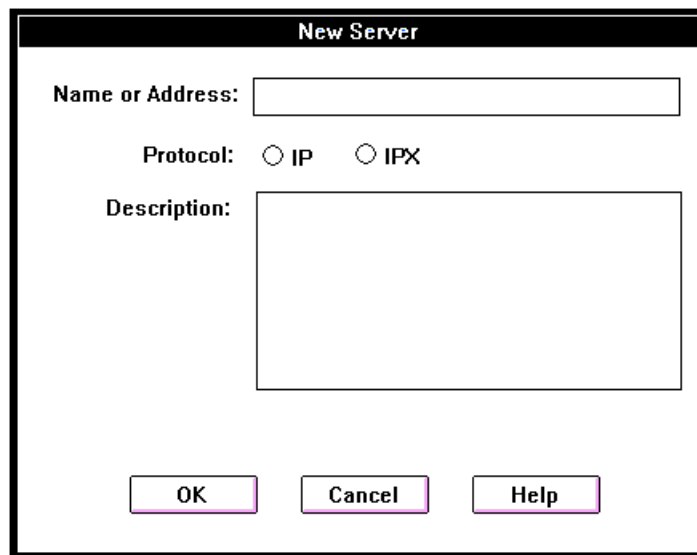

Figure 2-1. New Server Dialog Box
- 2 Click the  button. The New Server dialog box appears, as shown in Figure 2-1.